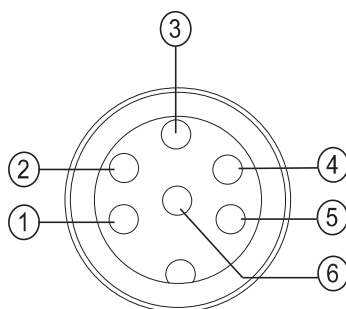

Figure 3-30: Status Output Connector Pin Diagram
The printer provides an output for a set of status lights through the status output connector. This provides +24 VDC output, the printer will switch in a ground to turn on the light. This is a 6- way DIN connector. The pin allocation is shown in Table 3-3 on page 3-21 and Figure 3-30.
**Note:** Figure 3-30 represents the view of the connector from the back of the printer.